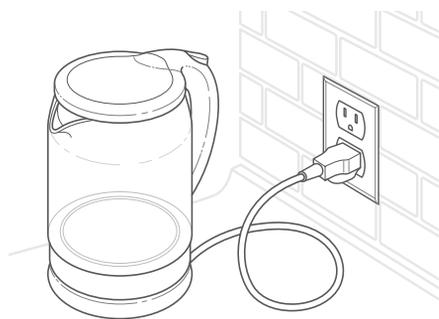

Figure 2.2
3. Close the lid and place the kettle onto the power base and plug in. [Figure 2.2]